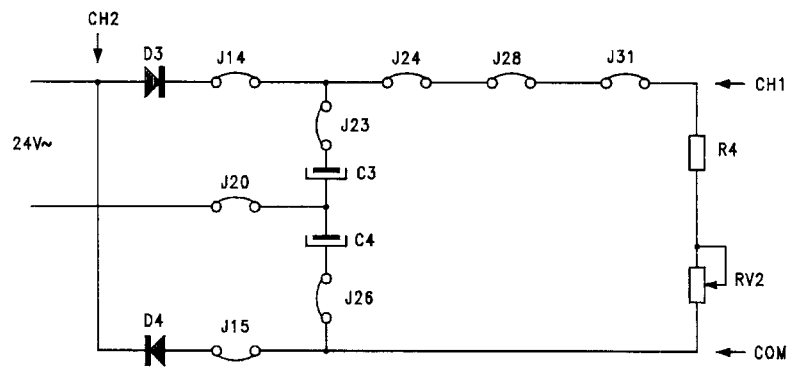

fig. B06.3
- Produce the circuit of figure B06.3, connecting jumpers J14, J23, J20, J26, J24, J28, J31, J15